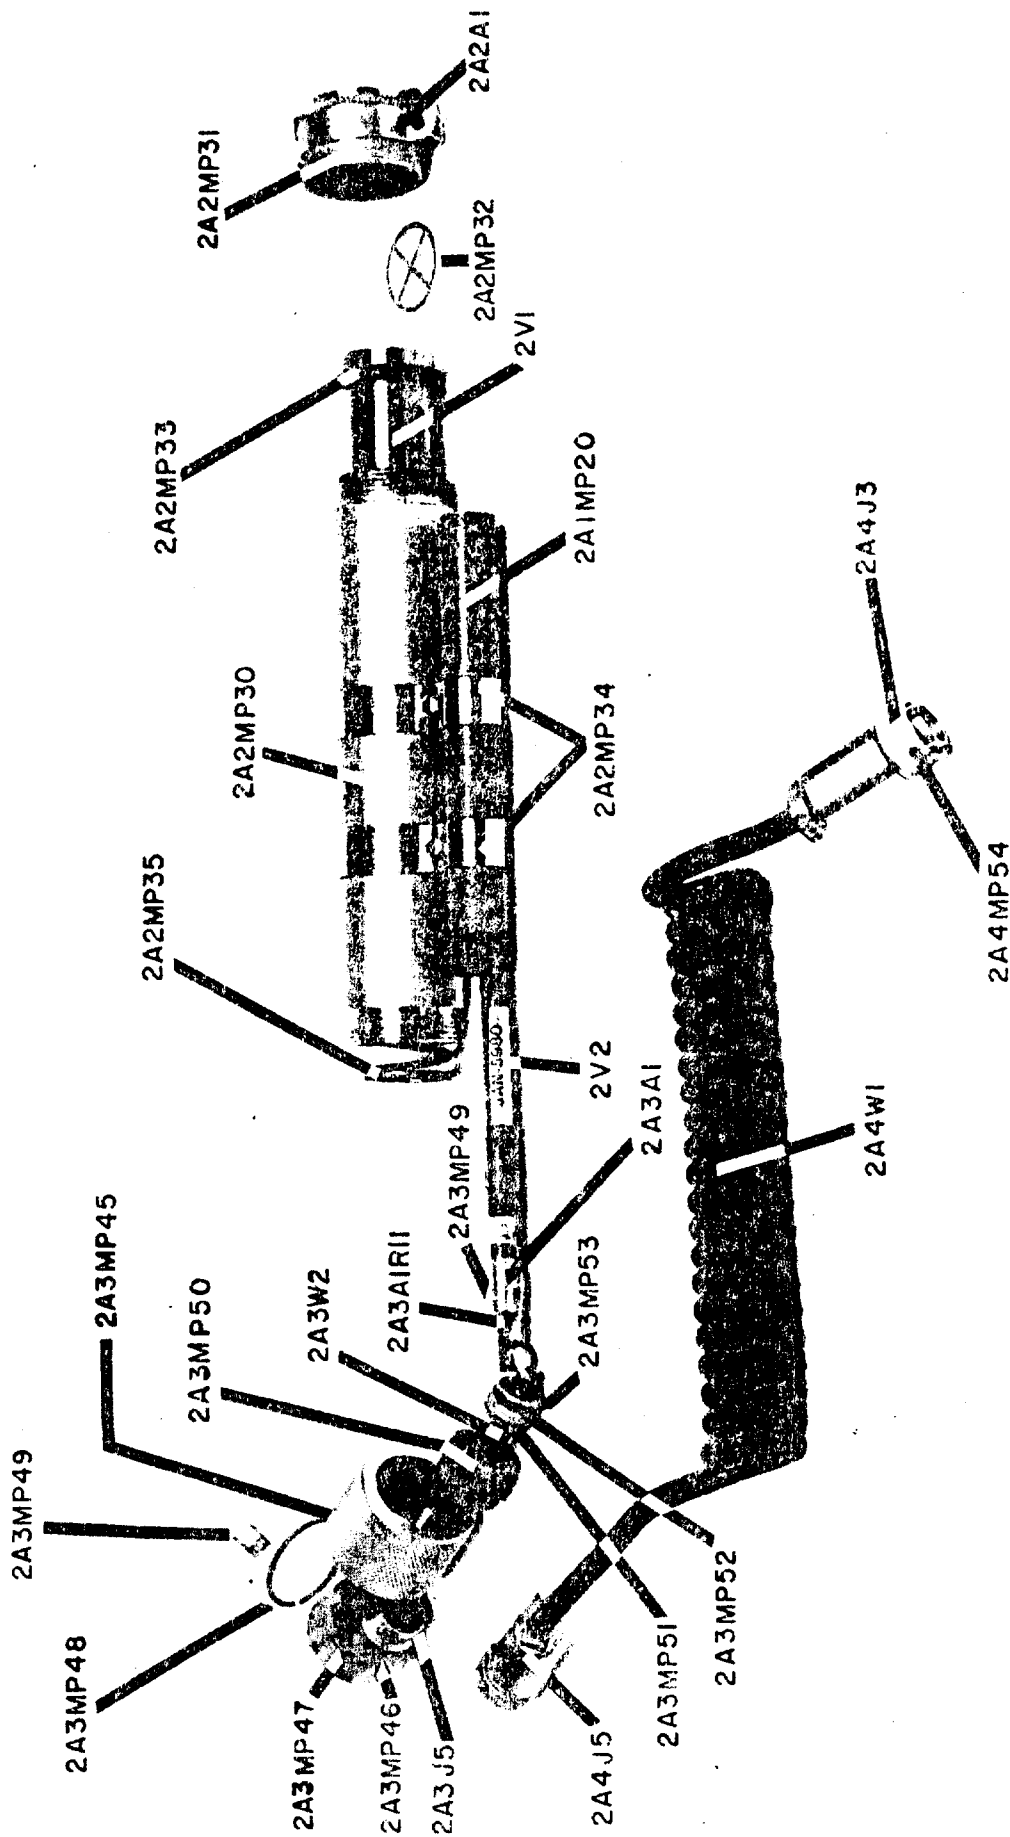

FIGURE 6-7. RADIAC PROBE, DT-613/PDR-27T DISASSEMBLED
a. Tube Replacement. Both tubes are housed in the probe. V1 is a type 5979 Geiger-Mueller tube and is the low range (0.5 and 5 mR/hr) detector. V2 is a type 5980 Geiger-Mueller tube and is the high range (50 and 500 mR/hr) detector. Refer to Figure 6-7.